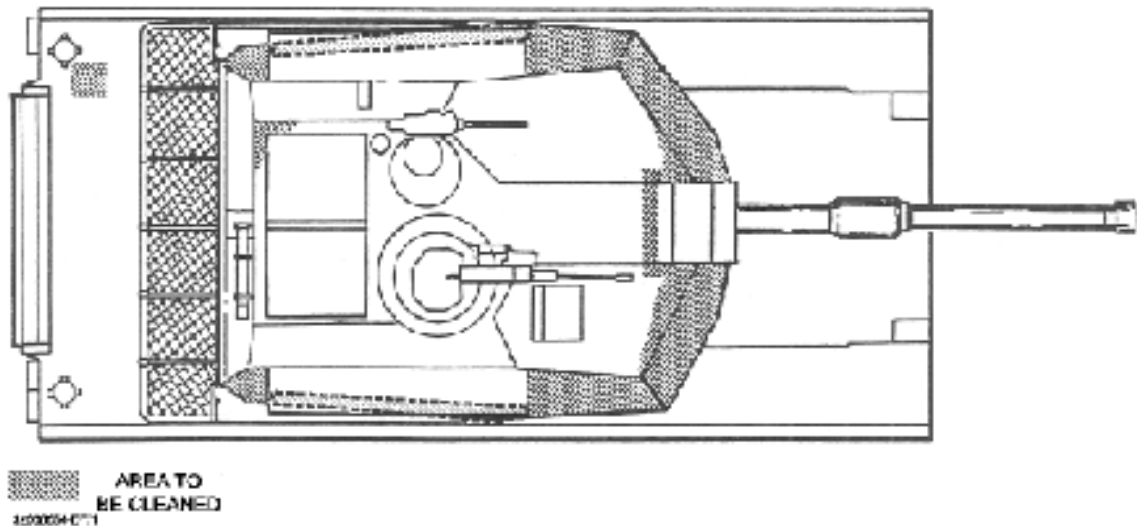

Figure 2-19. M1A1/M1A2 Area of Vehicle to be Cleaned Prior to Adding
- d. The belt is most easily applied by first centering the four (4) rear detectors across the bottom of the bustle rack.
- a. Clean all areas where fastener tape is to be installed with water, a brush, if necessary, and rags. Tape will not adhere to a dirty, wet, or oily surfaces. (See Figure 2-19.)